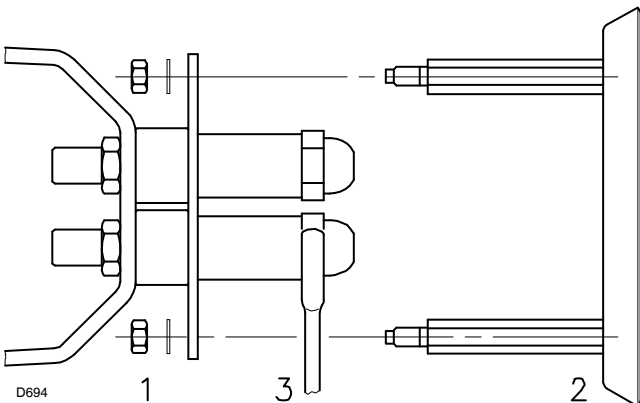

Fig. 12
- Remove the nuts 1) (Fig. 12) and the disk 2).
- Use spanner 3)(Fig. 12) to change the nozzles.